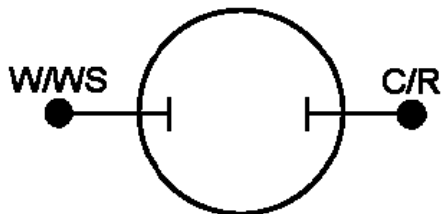

Figure 2: 2-electrode cell setup
The physical setup for two-electrode mode will have the current and sense leads connected together: Working (W) and Working Sense (WS) are connected to a (working) electrode and Reference (R) and Counter (C) are connected to a second (aux, counter, or quasi-/pseudo-reference) electrode. A diagram of 2-electrode cell setup can be seen in Figure 2.